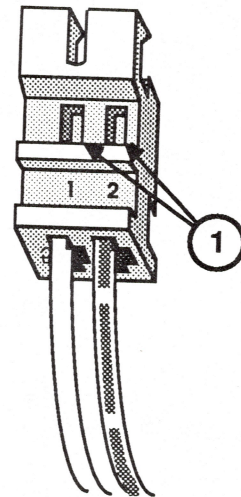

FIGURE 6
4. Using the tip of a screwdriver, press in on the two small holes on each side of the connector (Figure 6, #1) to compress the metal lead tabs inside.